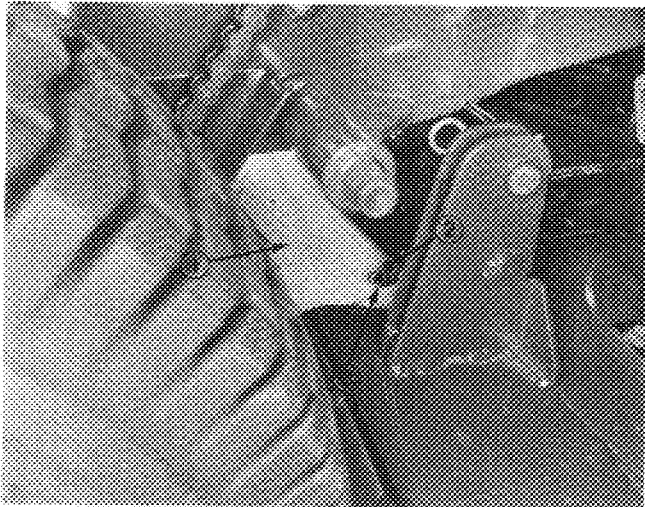

Figure 4
1. Insert front of grass shield onto mounting pins on rear of cutting deck (Fig. 4). Secure shield to deck pins with (2) hair pin cotters.